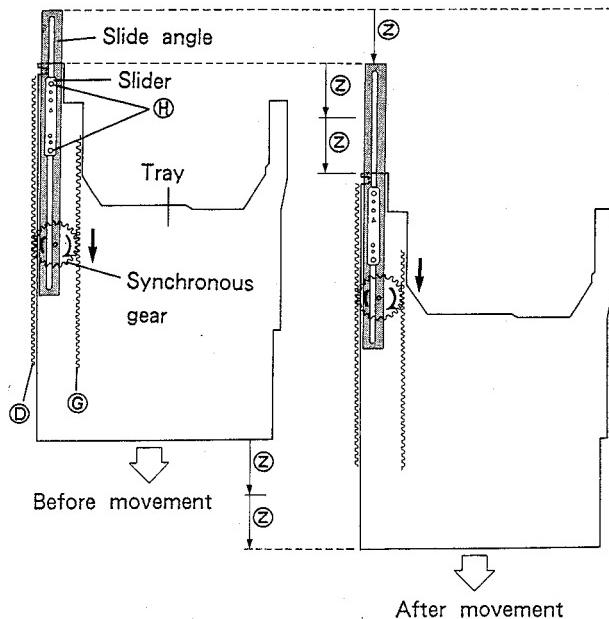

Fig. 10-1.
As shown in Fig. 10-1, tray is attached to the slider by two screws ⑪. Slider moves over the groove in the slide angle. Because it is impossible to provide the distance that tray must move (from OPEN position to PLAY position) by the movement which slide angle is capable of, the operation of the linear gear ⑩ attached to loading base, synchronous gear attached to slide angle, and the linear gear section ⑨ of the tray, doubles the movement distance of slide angle to allow movement of tray. The principles of operation are as follows. When slide angle moves in the horizontal direction (forward and back direction), synchronous gear rotates to move tray by the same amount that slide angle was moved.
As can be seen in Fig. 10-1, the position of tray has moved twice the distance  $\odot$  that slide angle travelled, when compared with the position of tray before movement of slide angle. (The same applies to both tray 1 and tray 2.)